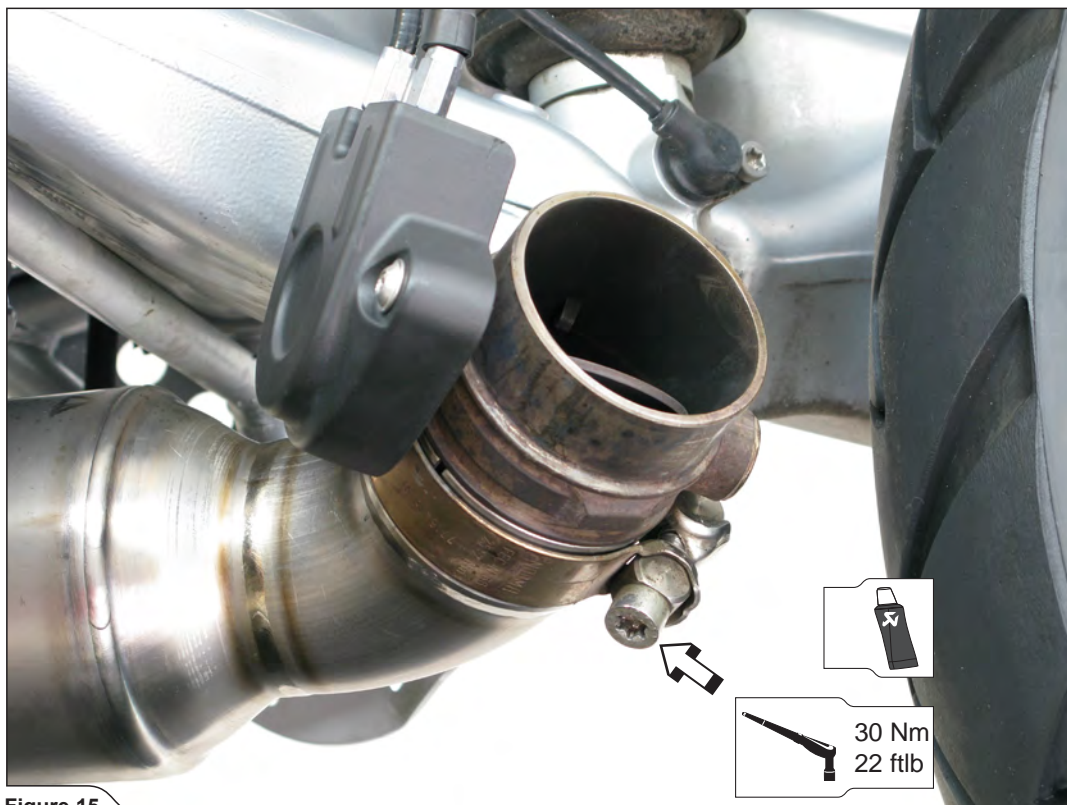

Figure 15
7. Correctly position and slide the stock exhaust valve onto Akrapovič Y collector. Tighten the stock metal clamp to a specified torque (**Figure 15**).